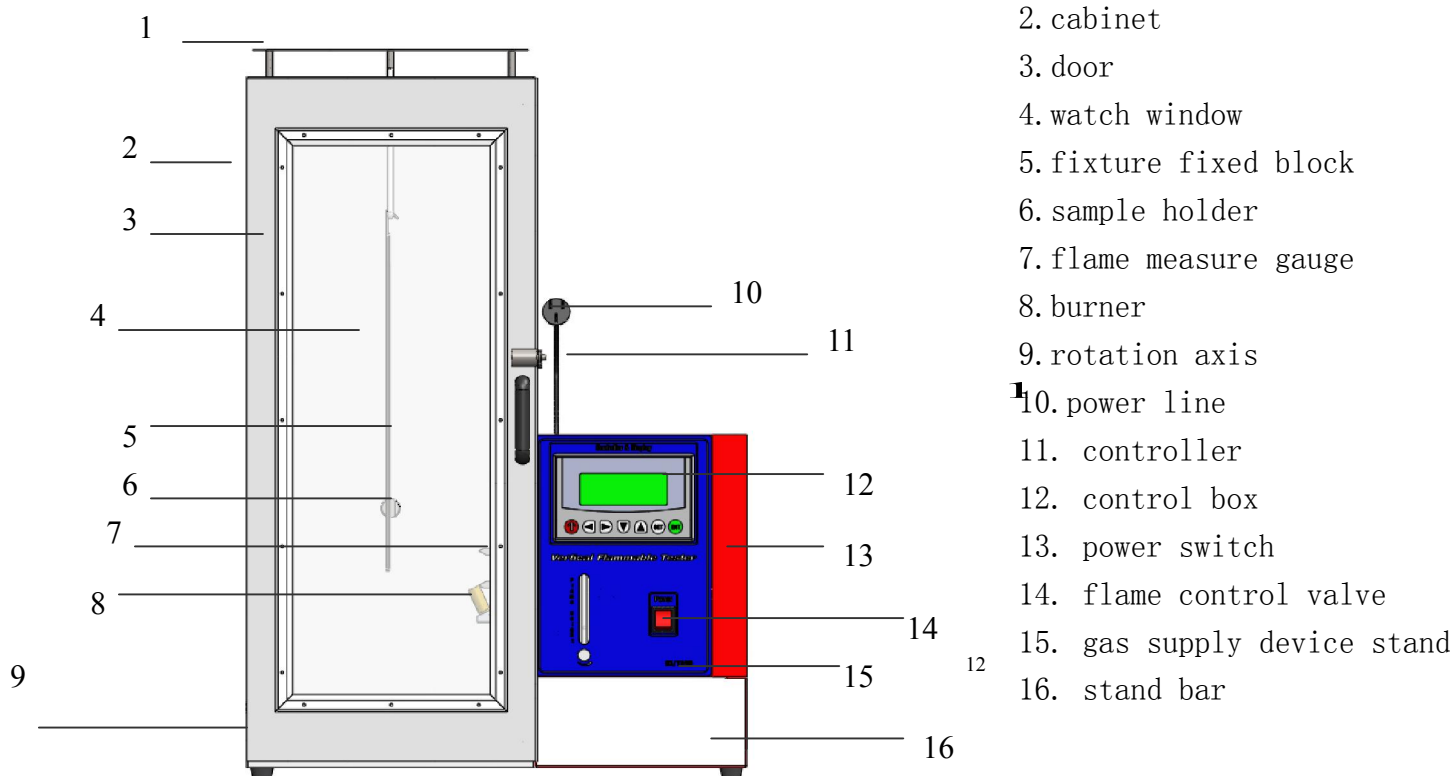

Figure 1
1. **physical construction:** (figure 1)